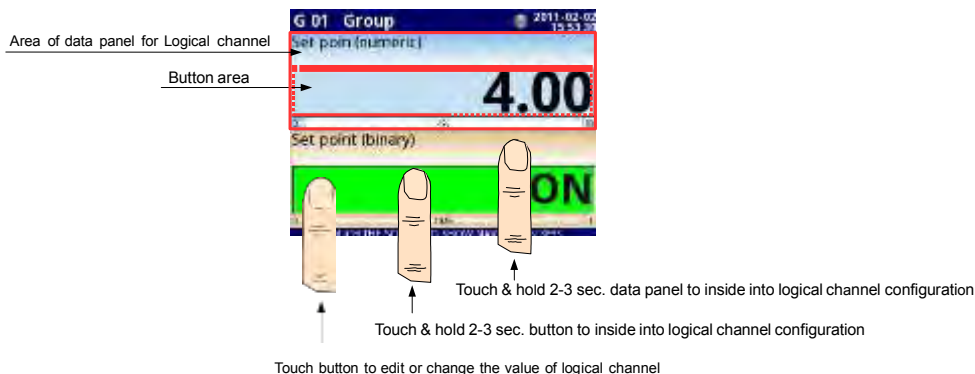

Fig. 7.49. Data panels for Logical channel in Set point value mode
- Edit button - this parameter allows you to activate the button in the panel data (see Fig. 7.49), this parameter has two options: